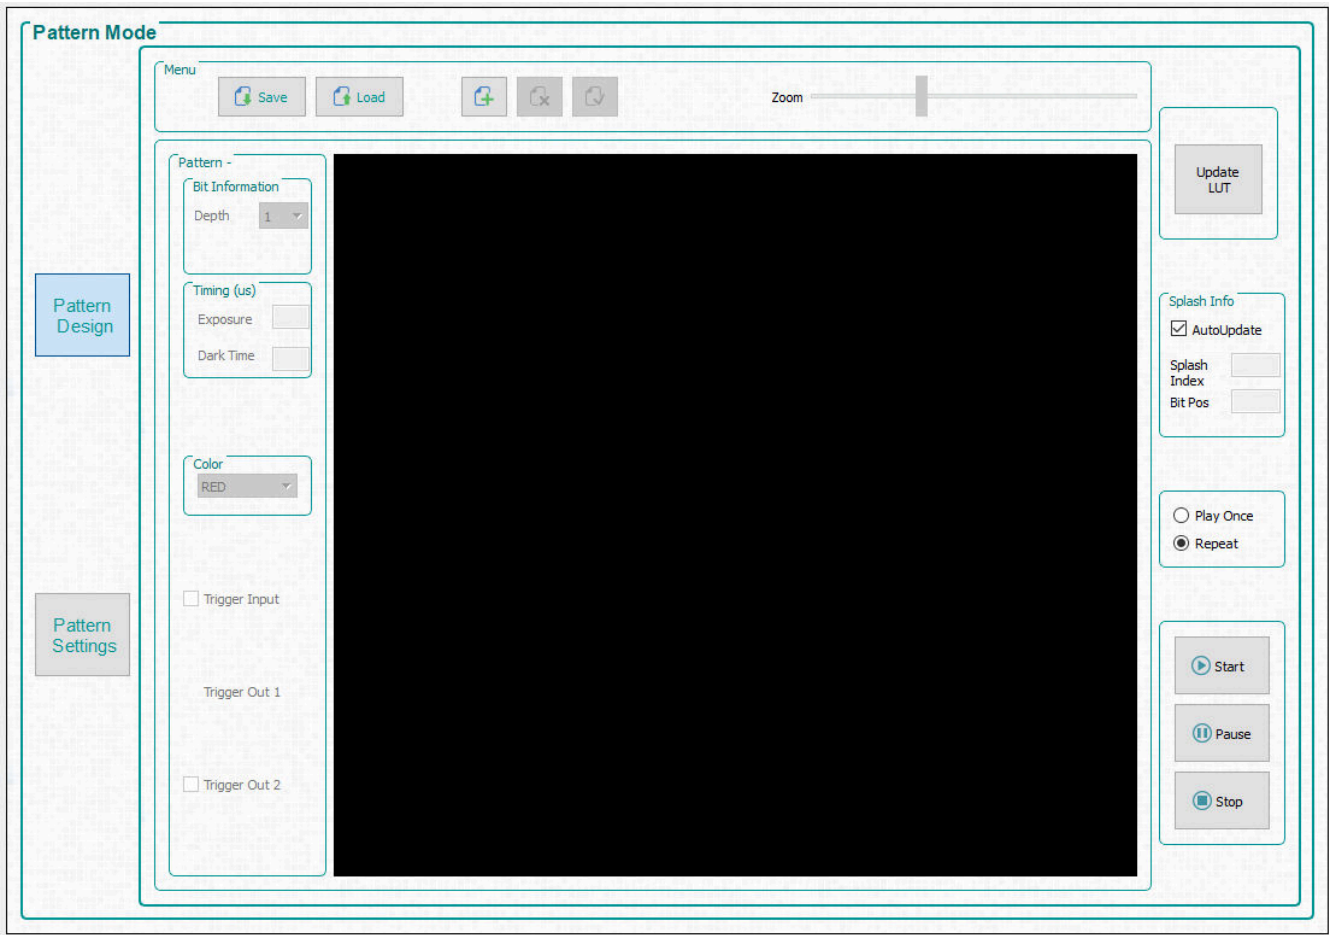

Figure 5-1. Pattern Mode Panel
1. Select *Pattern On-The-Fly Mode* from the *Operating Mode* group box, and click the *Pattern Design* button so that the panel is displayed as shown in Figure 5-1.